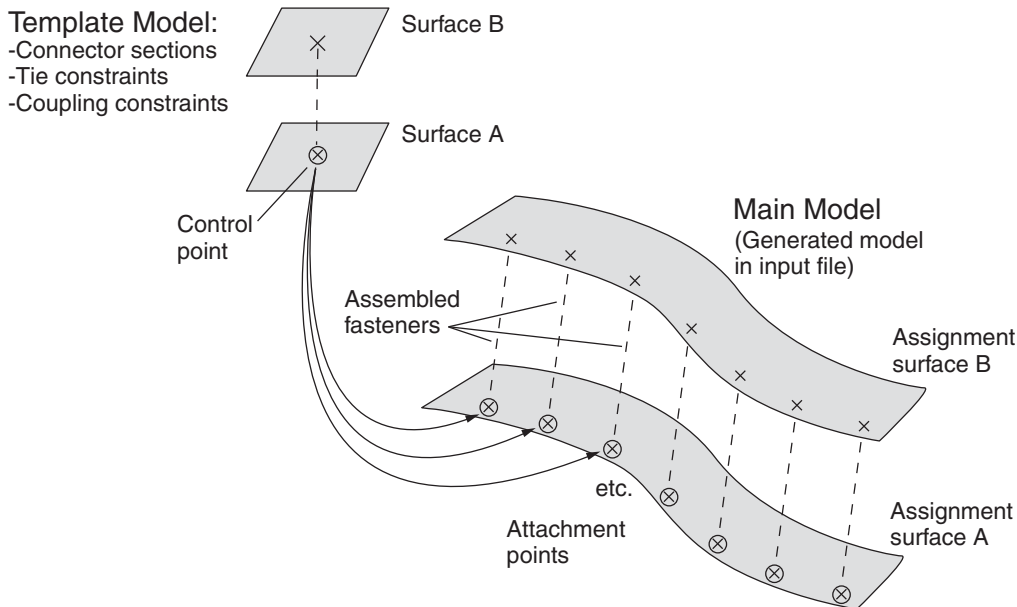

Figure 29–5 Replicating the template model in the main model.
2. Develop your main model, placing attachment points at the locations where you want the template fastener to be replicated. The template model control point will be mapped onto the locations of the attachment points in the main model (see Figure 29–5).